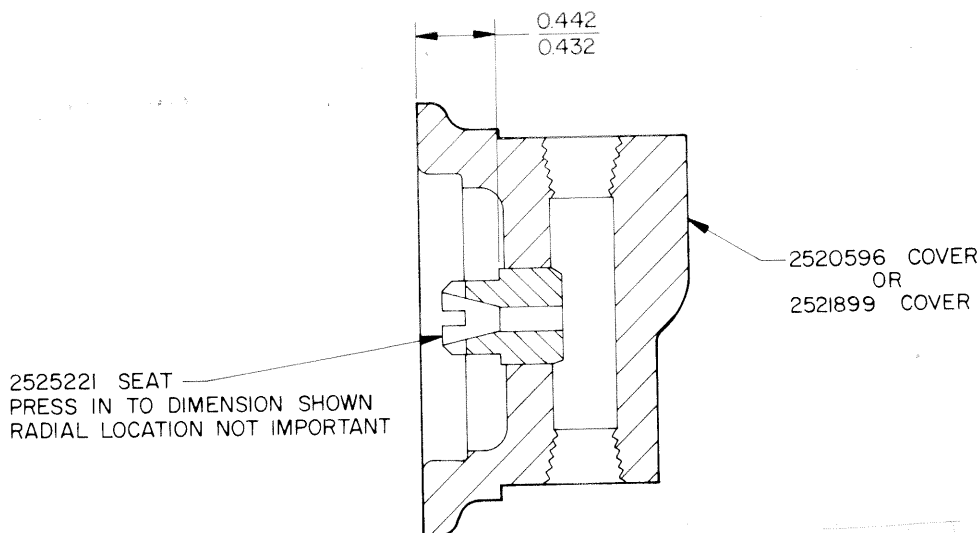

Figure 1.
(3) Press the part number 2525221 seat into the cover (97) with an arbor press to the dimension indicated in figure 1 of this directive. Wipe excess sealant from the bushing and cover, with MEK or acetone.